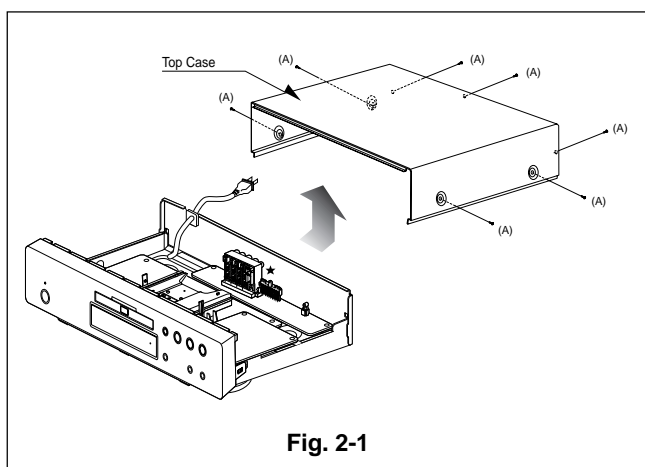

Fig. 2-1
1. Release 7 screws (A). (See Fig. 2-1)
1. Remove the top case.(See Fig. 2-1)
2. Remove 12 screw (C).
5. Remove 2 screw (D).